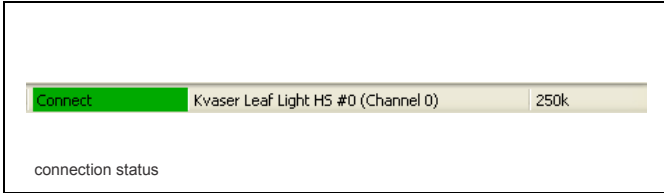

Figure 4-25: Plus 1 Software Activation Status
9. The status is provided at the bottom of the computer screen (See Figure 4-25.)